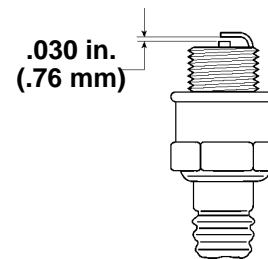

Figure 15
3. Set the gap on the new plug to 0.030" (0.76 mm) (Fig. 15).